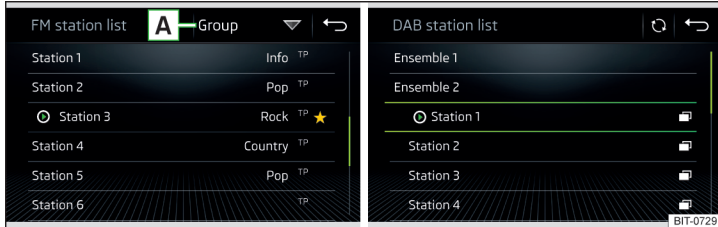

Fig. 195 Example, the list of available FM/DAB stations
- ▶ To **Sort** (FM) the stations in alphabetical order, by group or genre, tap on the function surface **A** » Fig. 195 » **!**.
- ▶ To **filter** the stations based on the program type (e.g. Music, Sport etc.) in the FM station list (with activated RDS function) and the DAB station list (with alphabetical sorting of the channel list selected), tap the function surface **A** » Fig. 195.
- ▶ To **manually** update, the tap on functional surface **⌂** » Fig. 195 .